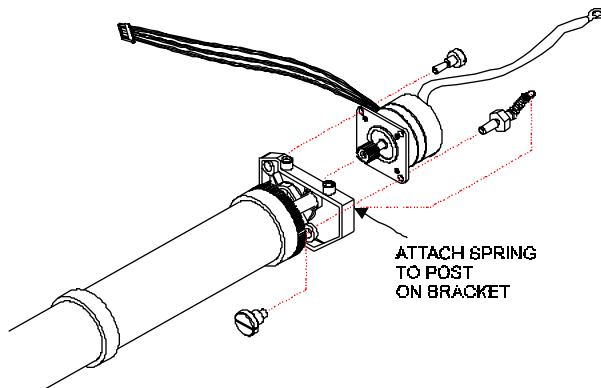

Figure 5-15. Stepper Motor Removal/Installation.
15. Remove the Stepper Motor Extension Spring from the Stepper Motor and the post on the Left Lower Drive Shaft Bracket. See Figure 5-15.
1. Loosely attach the Stepper Motor to the Lower Roller bracket using Stepper Motor hardware as shown in Figure 5-15.